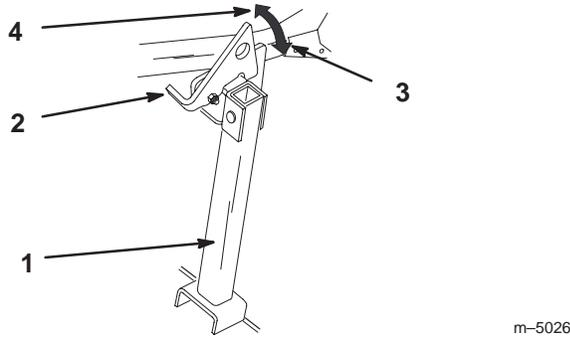

Figure 26
1. Raise the latch to the unlocked position (Fig. 26).